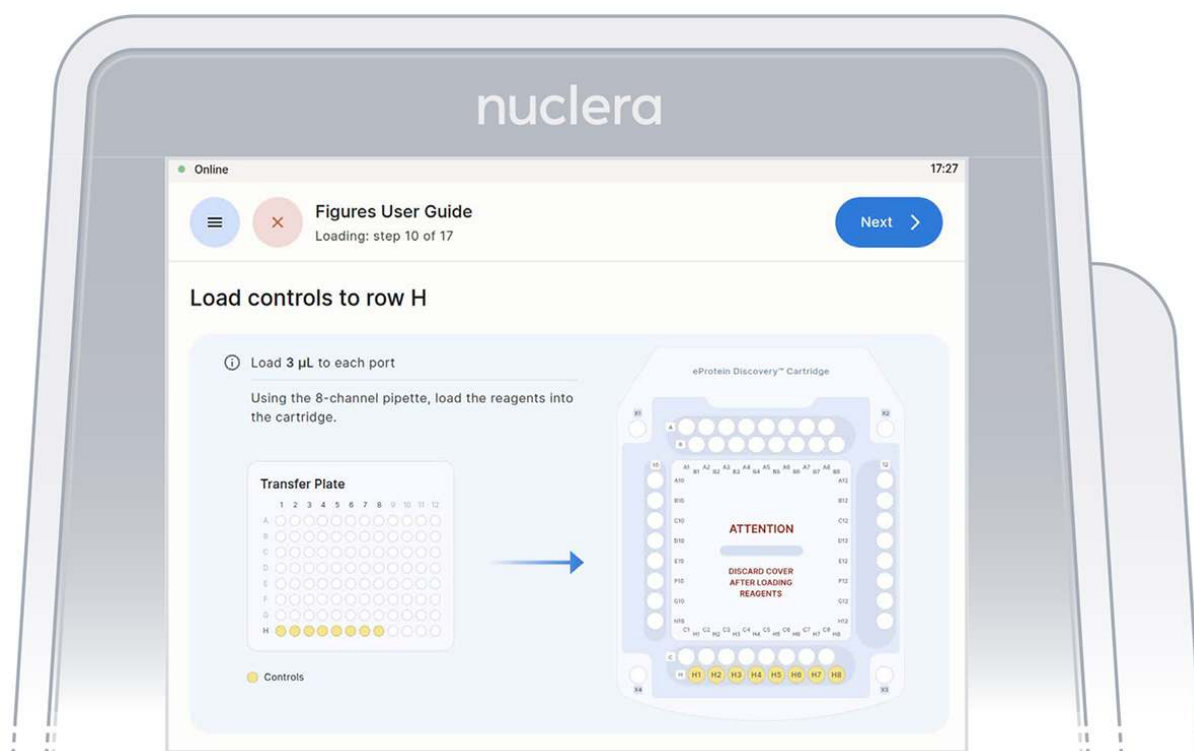

Figure 19: Loading of the reagents onto row H of the cartridge
- ▷ Load 8x fresh p20 pipette tips and aspirate 3 μ L of the reagents from the transfer plate wells H1-H8 into ports H1-H8 of the cartridge (Figure 19).